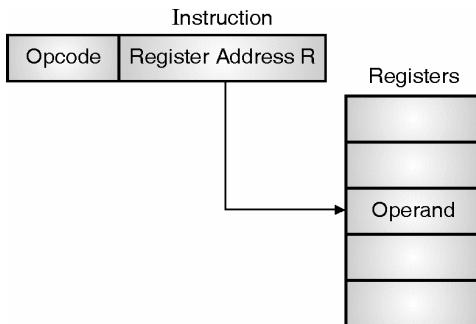

Fig. 10.3.4 : Register addressing mode
- Fig. 10.3.4 shows the instruction structure and the method of access for the register addressing mode.